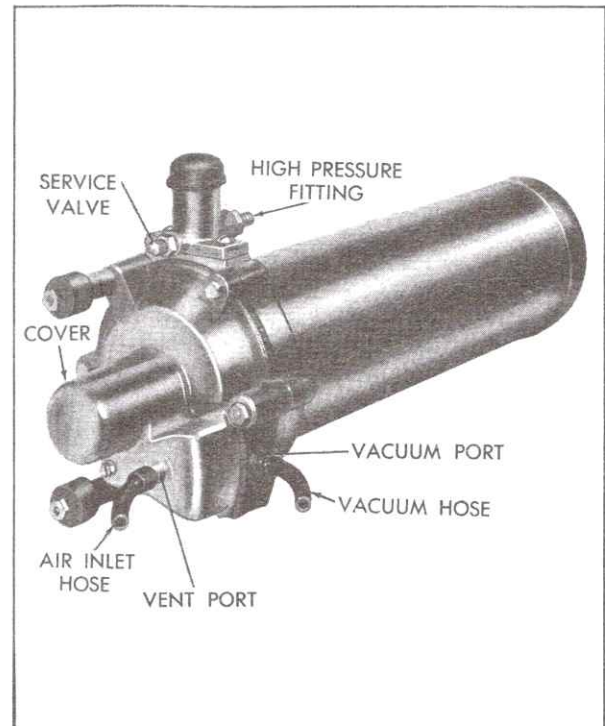

Fig. 4-9 Compressor Hose Connections
2. For identification purpose, place a piece of tape on the air intake line attached to the end (smooth) fitting on the compressor, Fig. 4-9.